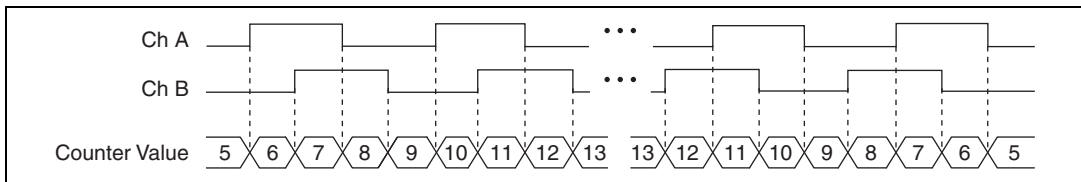

Figure 7-20. X4 Encoding
- X4 Encoding**—Similarly, the counter increments or decrements on each edge of channels A and B for X4 encoding. Whether the counter increments or decrements depends on which channel leads the other. Each cycle results in four increments or decrements, as shown in Figure 7-20.